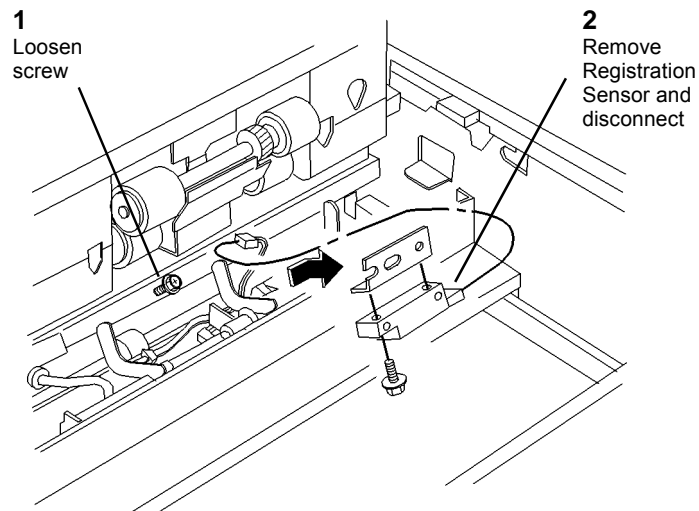

Figure 1 Removing Registration Sensor
4. Disconnect P/J580 and remove Registration Sensor (Figure 1).